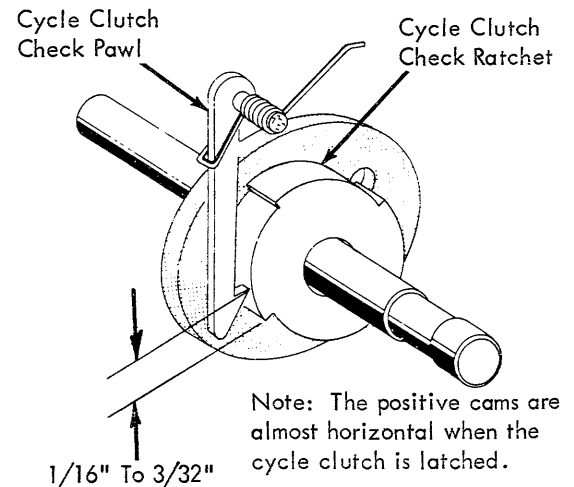

FIGURE 43. Radial Position of Cycle Clutch Collar
c. Radial position of the collar - (The position of the collar directly controls the radial position of the left hand end of the cycle clutch spring with respect to the cycle shaft. It determines how much the clutch spring will be expanded when the cycle clutch is latched and the cycle shaft is in its rest position). Adjust the collar so that when a zero tilt, negative-five rotate character is hand cycled the cycle clutch spring will begin to slip (expand) when the cycle shaft is 1/16" to 3/32" from its rest position measured on the surface of check ratchet (Fig. 43).